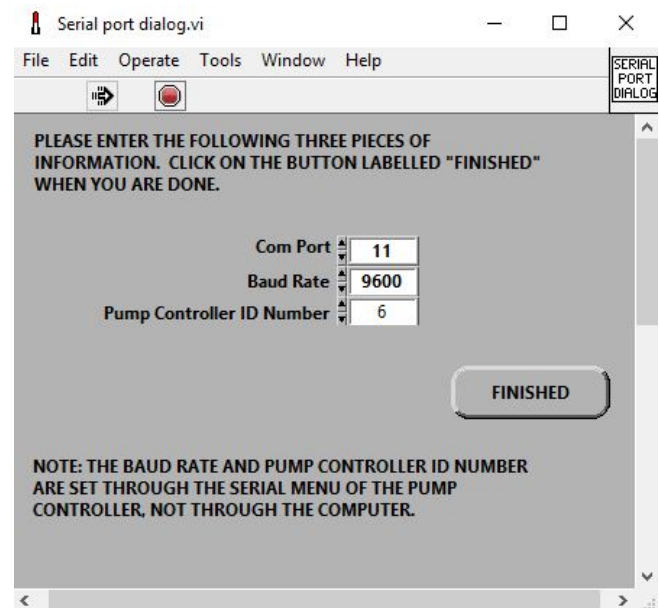

Figure 5: LabVIEW communication settings
2. If the program is not communicating, the serial port dialog window will appear (See Figure 5).